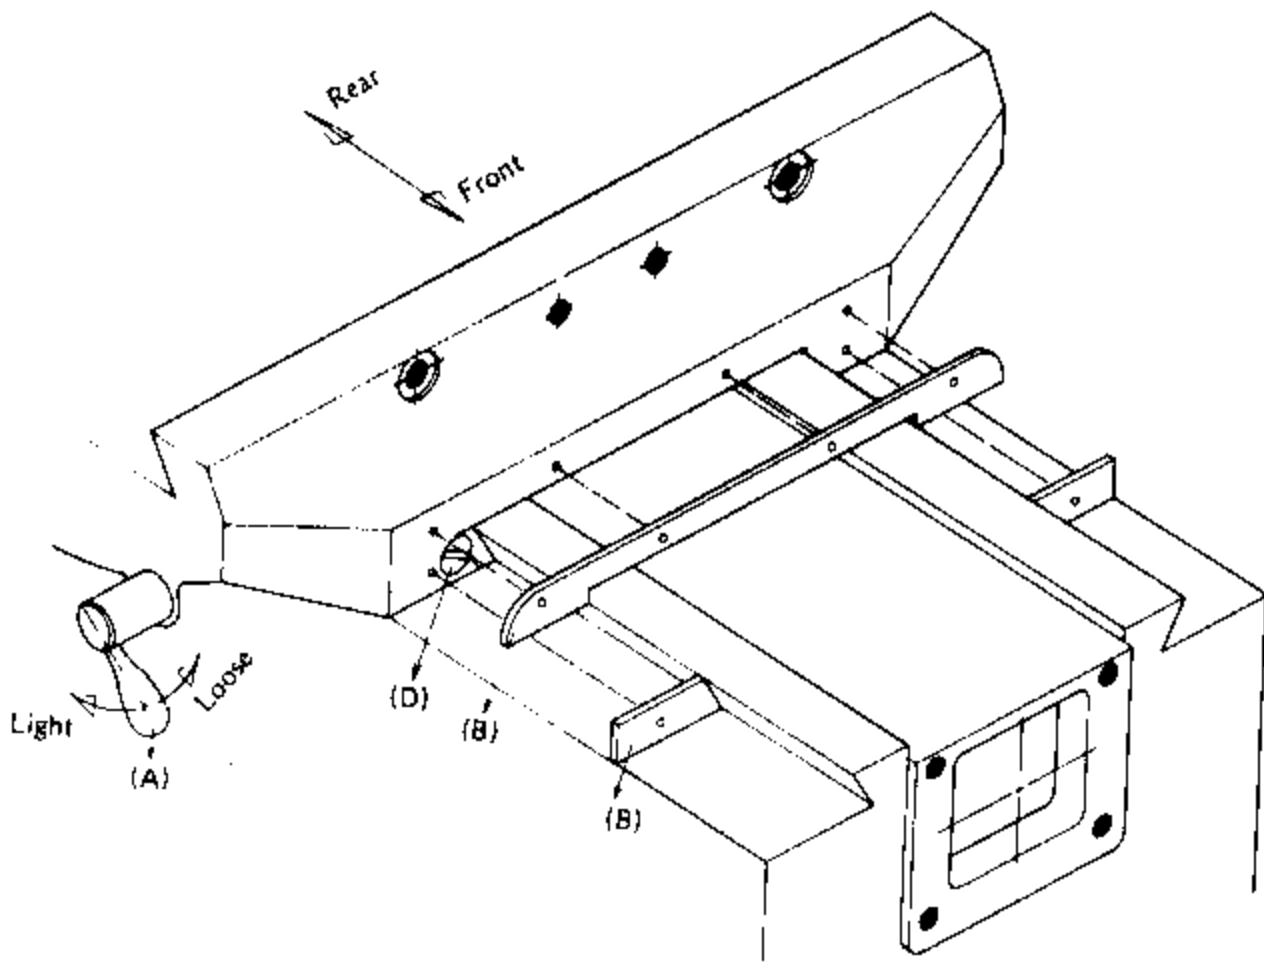

Figure 31
B. Adjustment of Saddle Gib (Vide Figure 31):